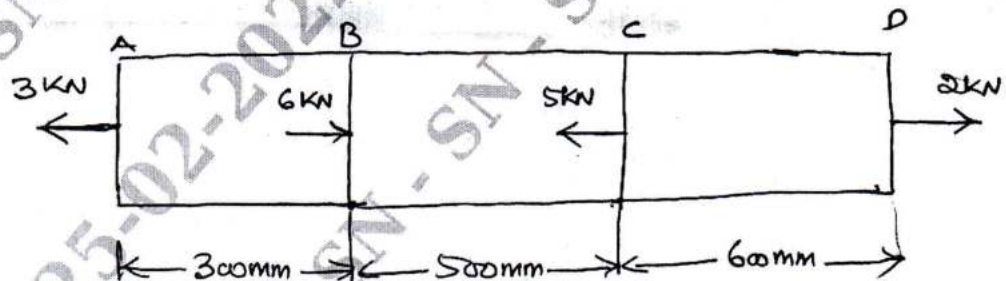

Fig. Q2 (b)
b. Find the total strain in the bar, when it is subjected to forces, as shown in Fig. Q2 (b). The cross sectional area throughout is 400 mm^2 . Take $E = 2.0 \times 10^5 \text{ N/mm}^2$. Determine the stresses in each portion. (09 Marks)